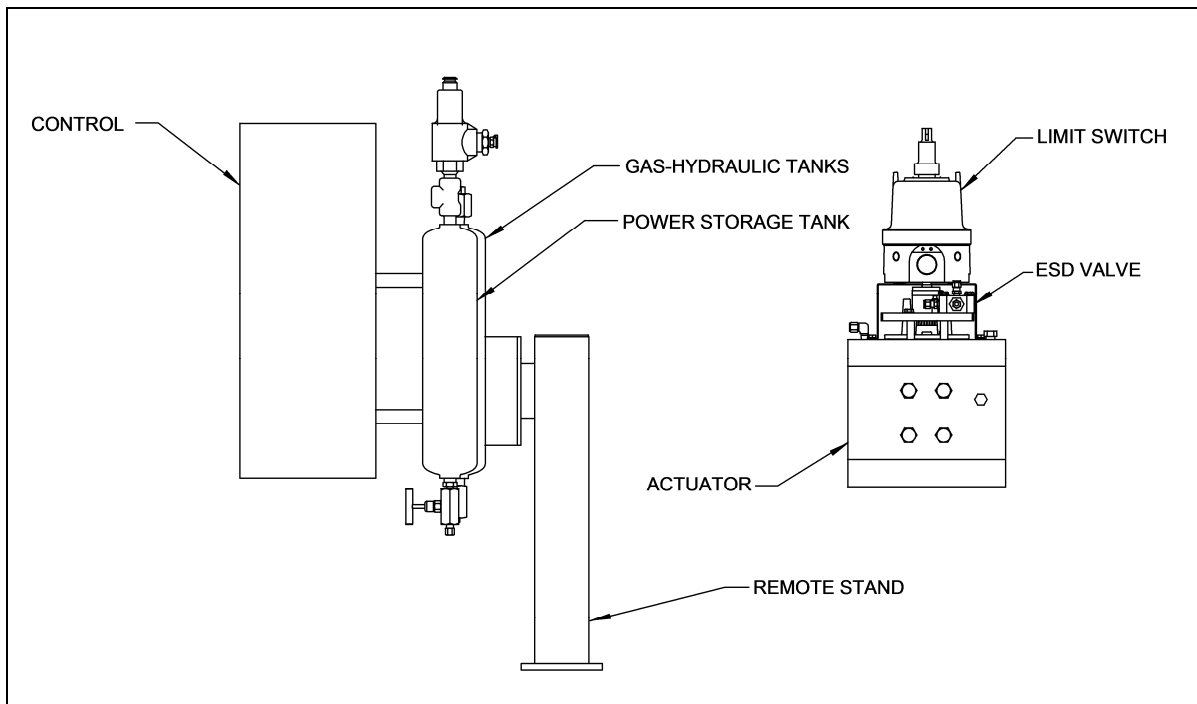
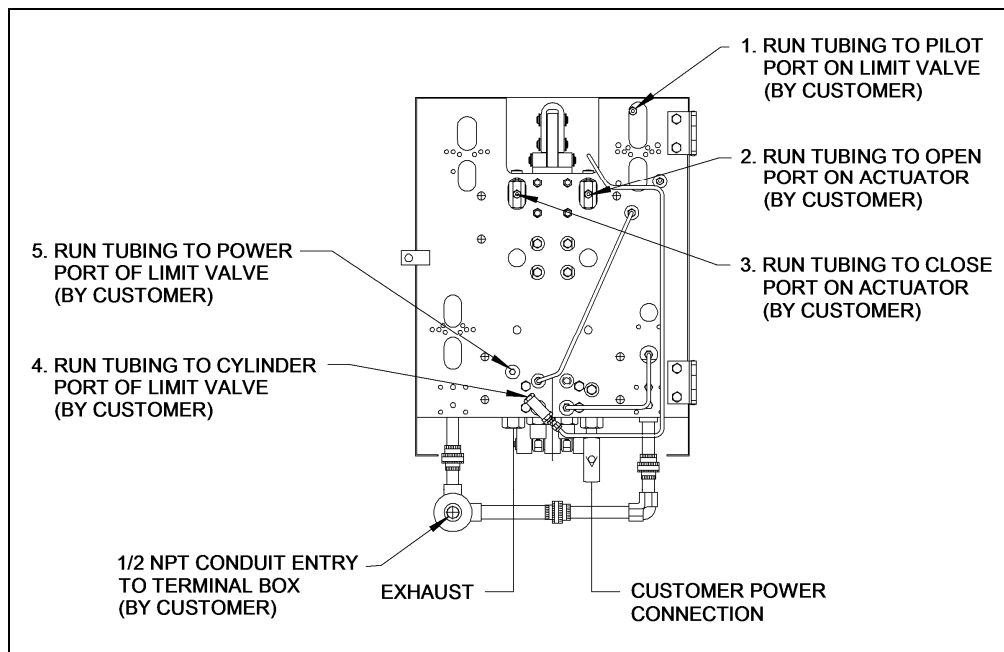
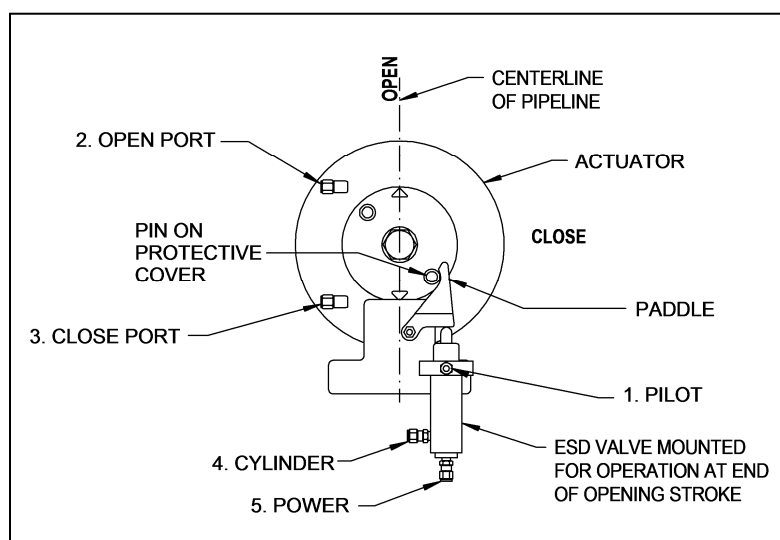

Figure 3: Remote Mounting Of Control To Actuator
Figure 4: View of the Back of the Control
Figure 5: View From Above The Actuator (Limit Switch removed in this view for clarity)
- Using the appropriate sized tubing, run the five lines with 1. in Figure 4 going to 1. in Figure 5, 2. in Figure 4. going to 2. in Figure 5. etc. Tubing sizes are not listed as some may be job specific governed by the distance between the Control and the Actuator.
- There is one electric conduit connection shown in Figure 4 that will run to the Terminal Box (Limit Switch Housing see Figure 3).